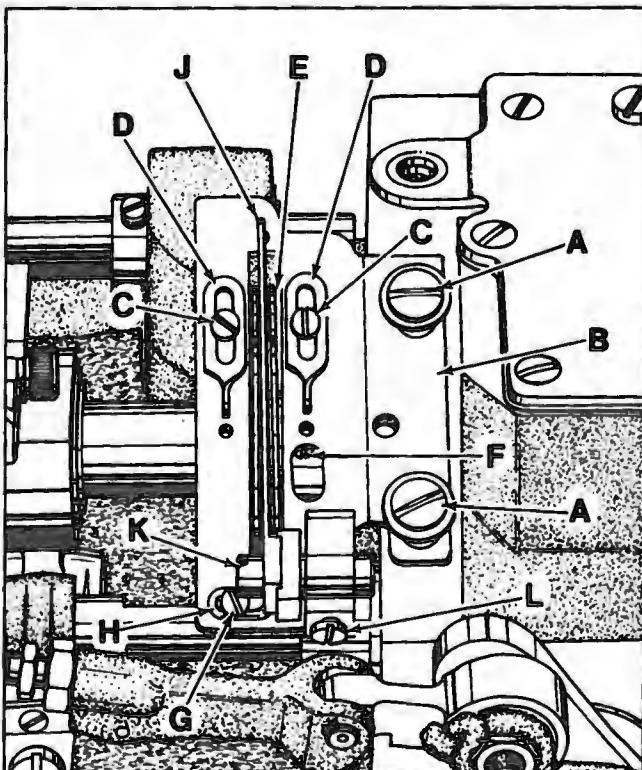

Fig. 19
- Loosen screws (A, Fig. 19) and center cast-off support plate (B) in its adjusting slots - front to back, then tighten screws (A).
- Loosen screws (C) and adjust eyelets (D) as required, so when the looper is at its extreme left the looper thread is taut across the cast-off support plate, then tighten screws (C). NOTE: Re-position eyelets (D) to the front to increase the amount of looper thread in the system, or to the rear to decrease the amount of thread in system.